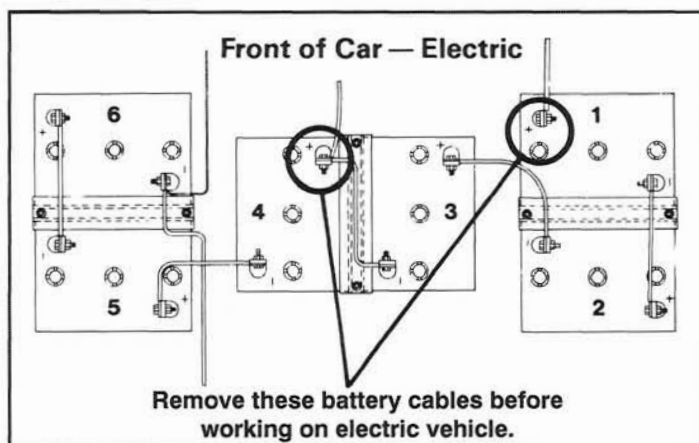

Figure 12
- DISCONNECT THE BATTERIES BEFORE SERVICING THE ELECTRIC VEHICLE. (See Figure 12.)